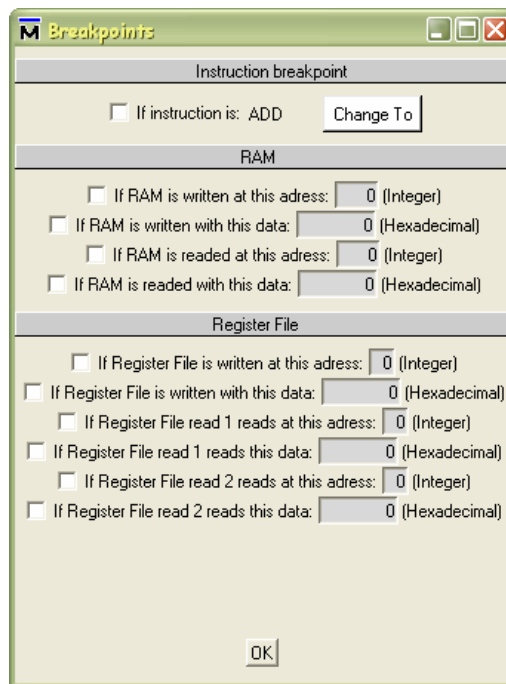

Figure 3. Dialog window for the configuration of the breakpoints.
- The button labelled as  permits to manage the kind of breakpoint to be set during the simulation. Upon clicking on this button the dialog window shown in figure 3 will appear. As it can be seen in this figure, it is possible to establish breakpoints related to the type of instruction executed by the microcontroller, the type of access to the RAM memory unit and the type of access to the register file. The breakpoint configured in this way will be activated when the check box placed on the left of each option is active (i.e., the *OK* button placed at the bottom of the dialog window just closes the window). The type of instruction for which a breakpoint will be generated can be changed by clicking on the button labelled as *Change To*. This will open a menu with the list of the instructions available in the microcontroller. For the rest of the breakpoints it is important to bear in mind that the value entered in their configuration has to be given in the format specified on the left of each configuration line. When the condition corresponding to a given breakpoint is met, apart from stopping the simulation an additional window will be displayed with information related with the condition that triggered it.